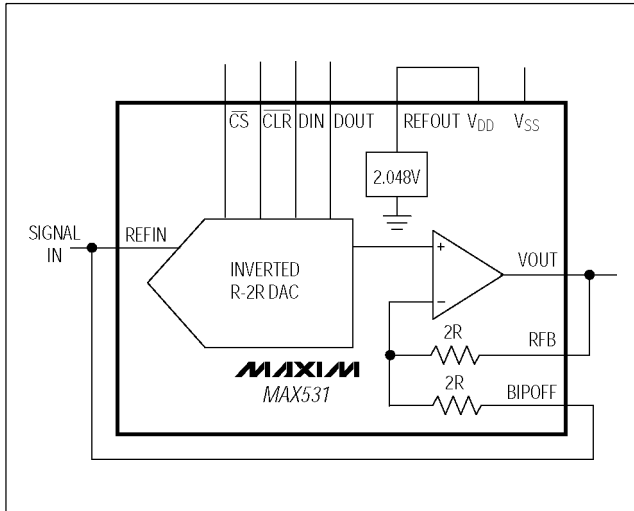

Figure 9. MAX531 Connected as Four-Quadrant Multiplier. The unused REFOUT is connected to V_{DD} .
The MAX531 can be used as a four-quadrant multiplier by connecting BIPOFF to REFOUT and RFB to VOUT, using (1) an offset binary digital code, (2) bipolar power supplies, using dual power supplies, and (3) a bipolar analog input at REFOUT within the range $V_{SS} + 2\text{V}$ to $V_{DD} - 2\text{V}$, as shown in Figure 9.